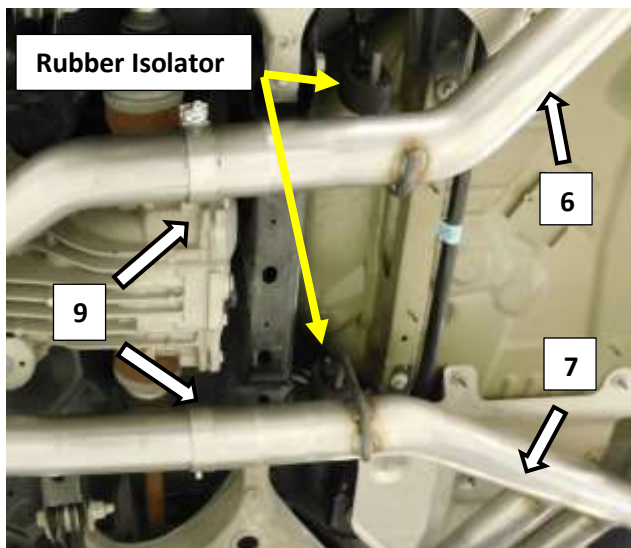

Figure 9
8. Install the left tailpipe expanded end on to the left muffler outlet pipe. **Fig.9**
9. Install the rubber tailpipe isolator on to the tailpipe hanger rod and the vehicle at the same time. **Fig.9**